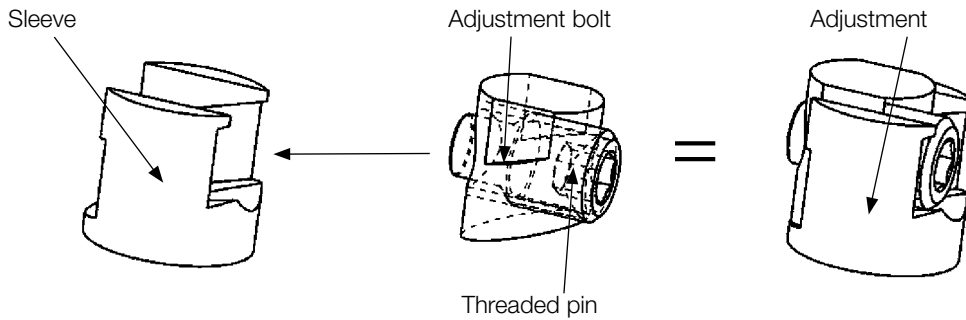

FIG. 1
- Screw the threaded pin into the adjustment bolt (from flat side) and insert into the sleeve (note correct side). (fig. 1)